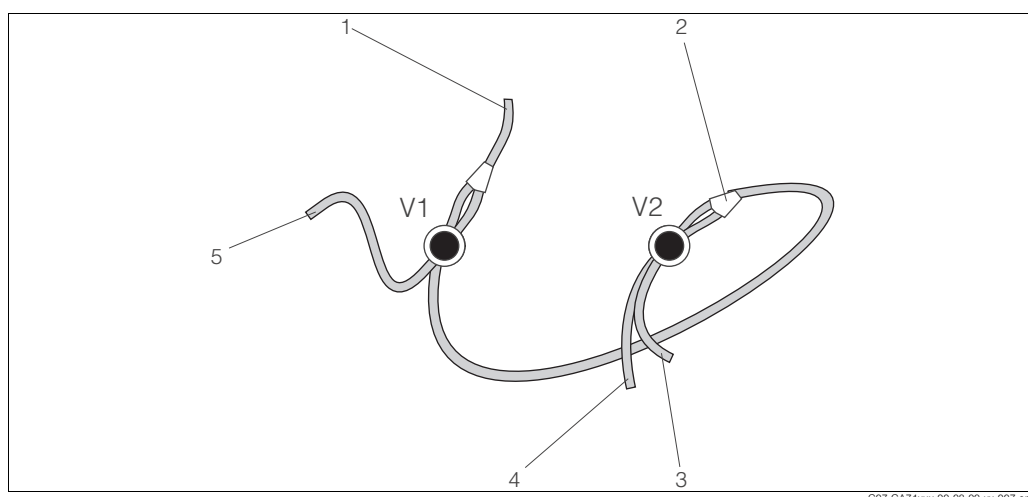

Fig. 9: Valves and valve hoses
5. Insert the valve hoses according to Fig. 9. This prevents the hoses becoming stuck or being pressed against the same position for a long period of time.